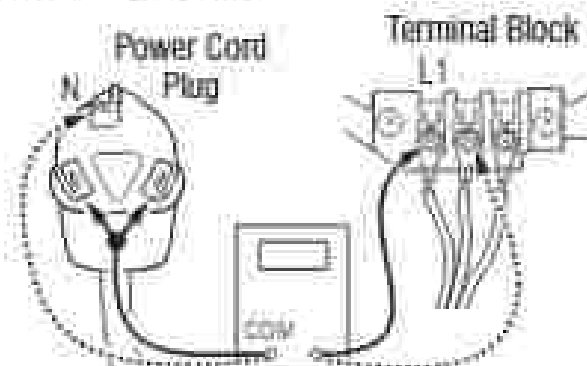

Figure 2 - Plug-to-terminal connections for electric dryer.
3. With an ohmmeter, check for continuity between the neutral (N) terminal of the plug and the center contact on the terminal block. See Figure 2.
4. In a similar way, check which terminal of the plug is connected to the left-most contact on the terminal block and make a note of it. This will be L1 (black wire) in the wiring diagram. See figure 2.